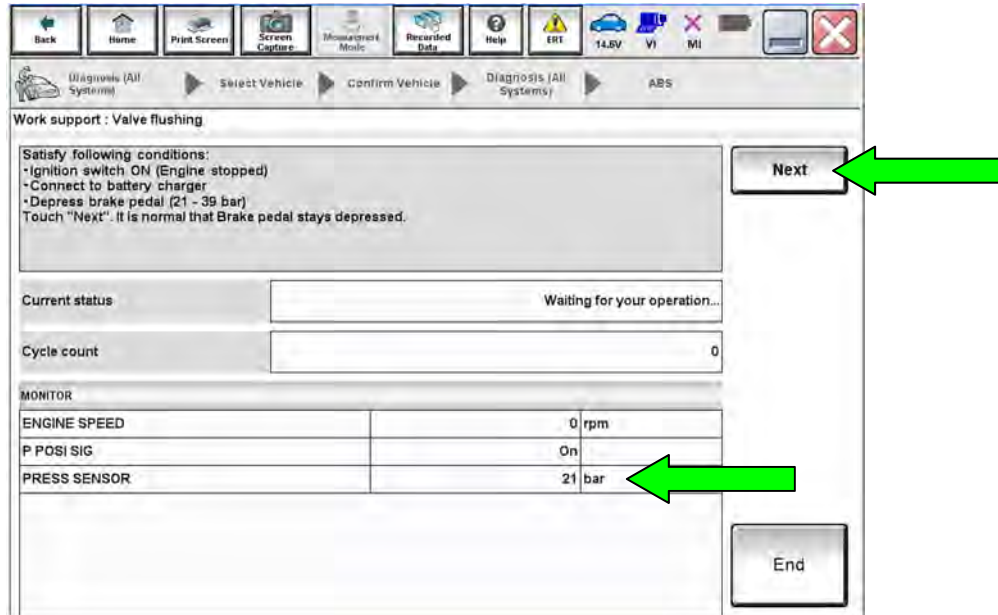

Figure 10
21. Press the brake pedal to raise the brake pressure to 21-39 bar (Figure 10).
22. While maintaining 21-39 bar of brake pressure, select **Next** one (1) time.